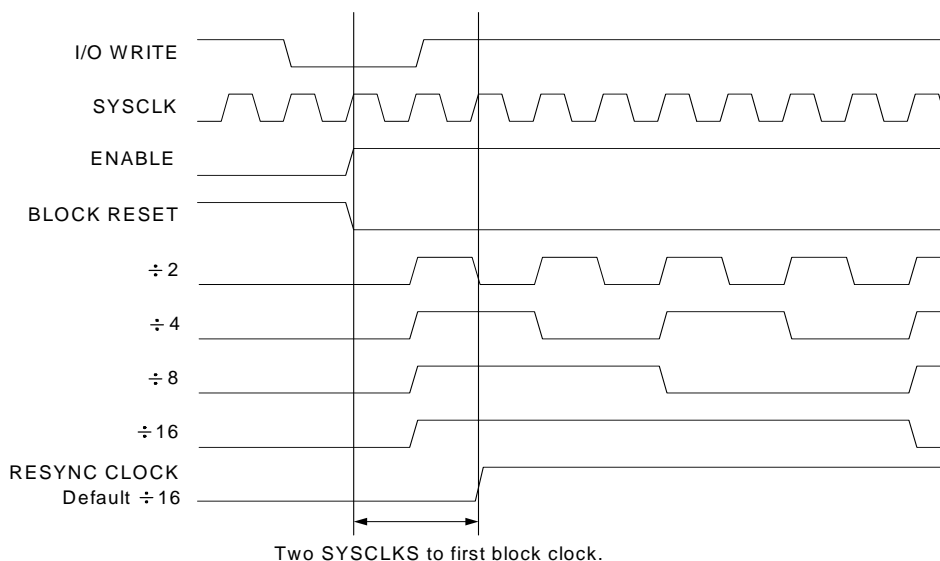

Figure 27-4. I2C Input Clocking
**Bit 0: Enable Slave.** When the Slave is enabled, the block generates an interrupt on any Start condition and an address byte that it receives, which indicates the beginning of an I2C transfer. When operating as a Slave, the block is clocked from an external Master and therefore, will work at any frequency up to the maximum defined by the currently selected Clock Rate. The internal clock is only used in Slave mode to insure that there is adequate setup time from data output to the next clock on the release of a Slave stall. When the Enable Slave and Enable Master bits are both '0', the block is held in reset and all status is cleared. See Figure 27-4 for a description of the interaction between the Master/Slave Enable bits. Block enable will be synchronized to the SYSCLK clock input (see “Timing Diagrams” on page 294).
Figure 27-4 illustrates the I2C input clocking scheme. The SYSCLK pin is an input into a four-stage ripple divider that provides the baud rate selections. When the block is disabled, all internal state is held in a reset state. When either the Master or Slave Enable bits in the I2C\_CFG register are set, the reset is synchronously released and the clock generation is enabled. Two taps from the ripple divider are selectable ( $/4$ ,  $/16$ ) from the Clock Rate bits in the I2C\_CFG register. As an additional option, the block may be clocked directly from SYSCLK, to achieve the highest baud rate. If any of the two divider taps is selected, that clock is resynchronized to SYSCLK. The resulting clock is routed to all of the synchronous elements in the design.